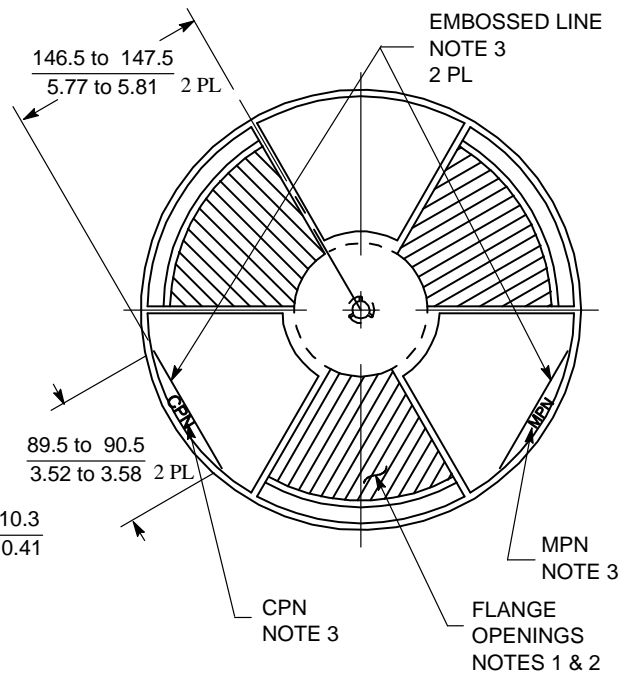

Figure 42. Front View of 330 mm (12.99 in) Reel
- If there are any flange opening on the front flange of the 330 mm (13.0 in) reel they must be designed in locations so that two of the 41.3 mm (1.65 in) by 125 mm (4.90 in) ON Semiconductor barcode labels can be applied parallel to each other as in Figure 42.